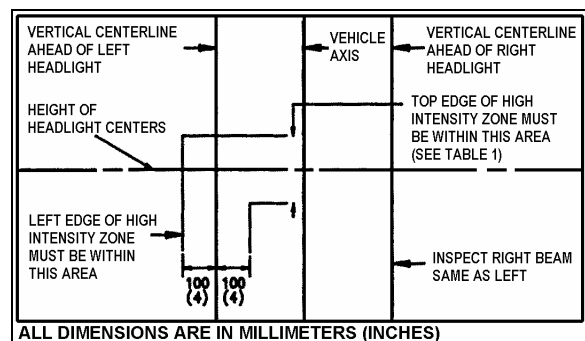

FIGURE 38: AIM INSPECTION LIMITS FOR LOWER-BEAM HEADLIGHTS
8. The inspection limits in the vertical direction for low-beam headlights or the low beam of a dual-beam headlight, shall be as described in Table 1. In the horizontal direction, the left edge of the high-intensity zone shall be located from 10 cm (4 inch) left to 10 cm (4 inch) right of the vertical centerline of the beam. The viewing screen shall be located 7.6 m (25 ft.) in front of the vehicle (Fig. 38).